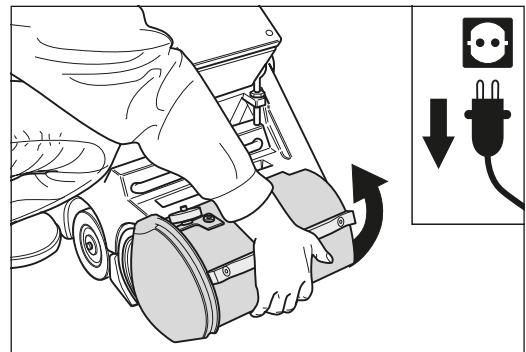

Fig. 37 Pull the power plug out of the socket and swing the drum cover upwards.
- 3 Swing the drum cover upwards on the front of the machine housing (fig. 37).